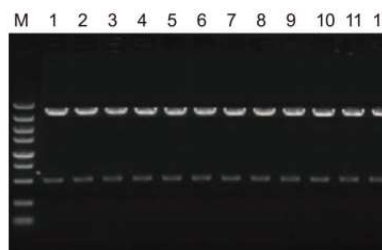

Fig 3. Agarose Gel Electrophoresis of Enzyme Digestion Products
6.3 Inoculate the remaining medium of positive clones into fresh LB medium and culture overnight. Then, extract the plasmids for further enzyme digestion analysis (Fig 3) or DNA sequencing.